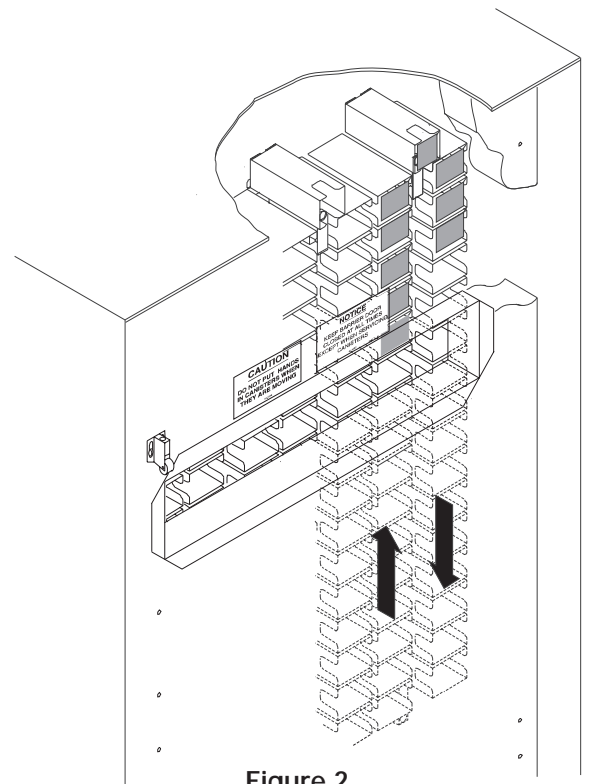

Figure 2
1. Press **RUN 4** repeatedly until all 9 products have gone past the loading window, and there is an empty canister at the loading position (see figure 2).